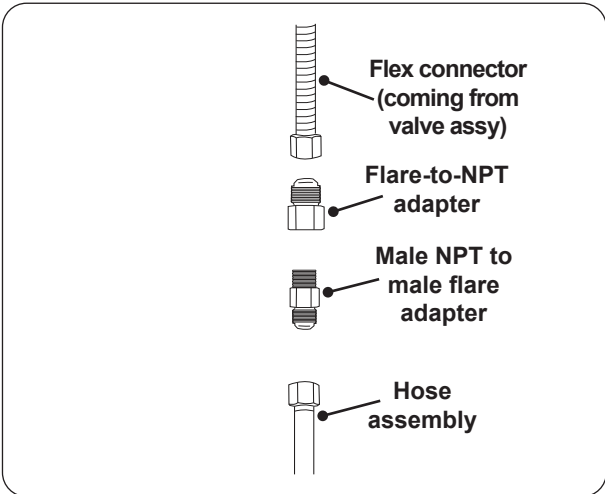

Fig. 27-1 Connecting flex to hose assy
1. Connect the L.P. regulator hose assembly (not included) to the flex connector that is coming off of the valve assembly (see Fig. 27-1).